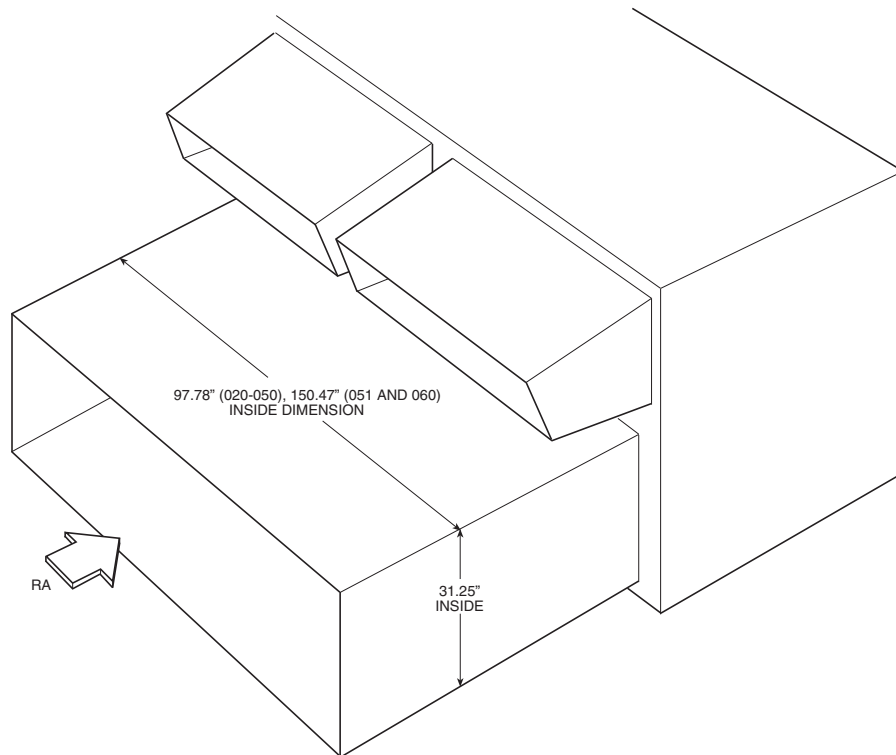

Fig. 43 — Side Return Duct Dimensions
3. Run the return air ductwork up to the openings. One single duct is recommended to connect to the unit over the return air openings. See Fig. 43. The return duct must incorporate a minimum $\frac{3}{4}$ -in. flange for connection to the unit cabinet. The unit does not have duct flanges for this conversion.
Space must be available in the return duct to mount the power exhaust fan (gravity relief) modules. Dimensions and suggested locations are shown in Fig. 43. These instructions are a guideline and not a comprehensive procedure. The design contractor must provide some design initiative.
the return duct as shown in Fig. 43 or externally in conduit. A service access panel will be needed near each power exhaust fan.